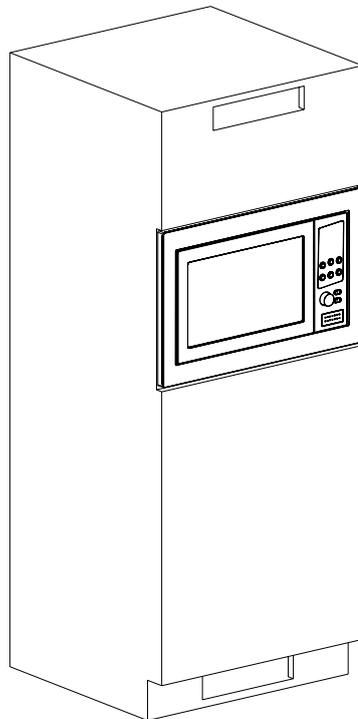

fig.5
e) Final assembly as shown in Fig.5.